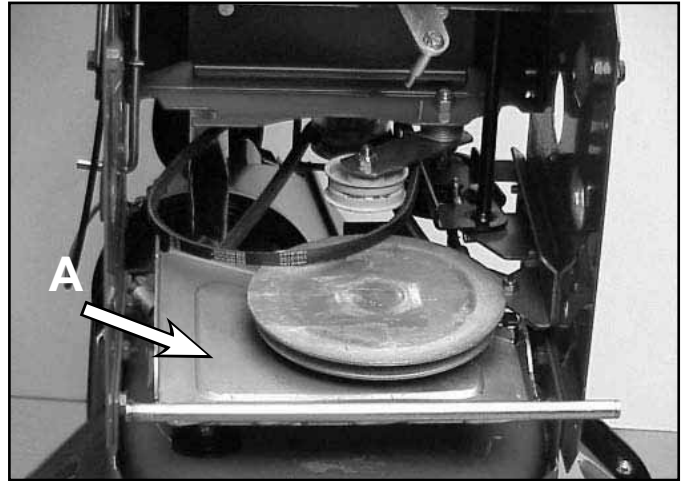

Fig 112
15. Slip the belt off of the pulley and slide the pivot assembly to the side to remove the rod ends from the side plate (Fig. 112).